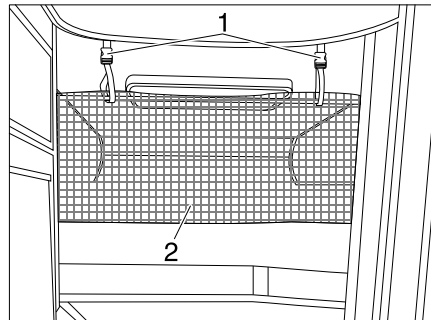

Fig. 167 Safety net
The safety net (Fig. 167,2) is stored as standard between the mattress and slatted frame. Do not use the safety net until the person is already in bed.
- Fasten the retaining straps (Fig. 167,1) to the holders on the ceiling.